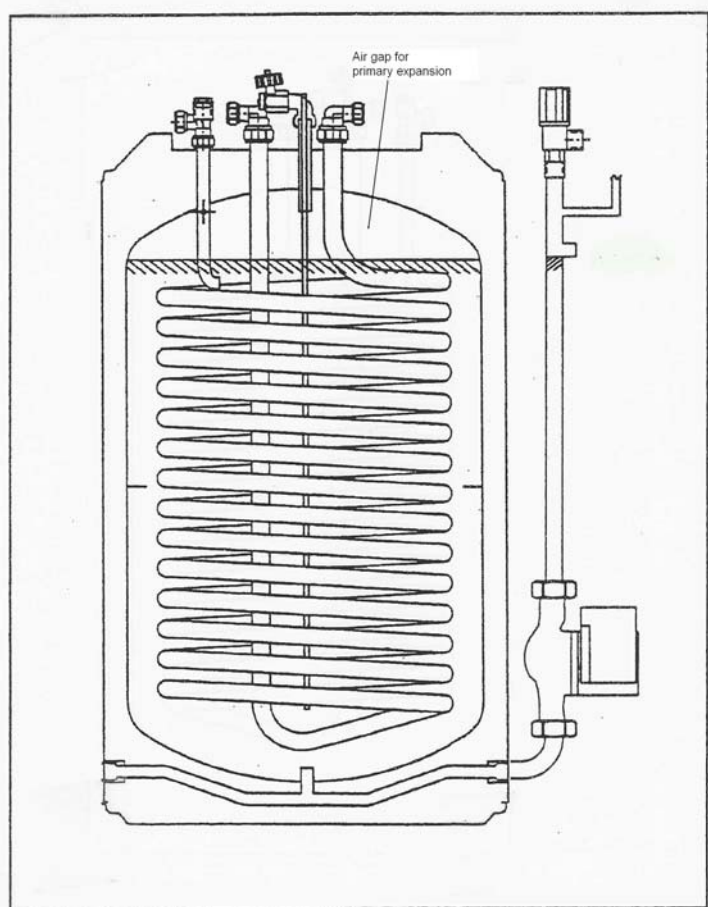

Figure 5.5
5.9.2 Open the water level drain valve at the riser pipe. This level is the filling level (see Fig 5.5).